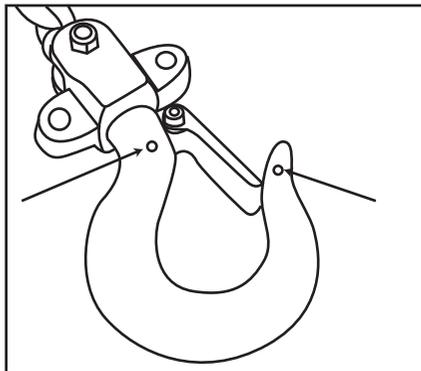

FIG 1
6. The top and bottom hooks on your Sumner chainhoist are designed to open to warn of an overload. Both top and bottom hooks (1/2T to 5T models) have indicator points cast into the hook per FIG 1. The measurement between indicator points must fall below the limit shown in FIG 16. If it exceeds the limit, the hook must be replaced.